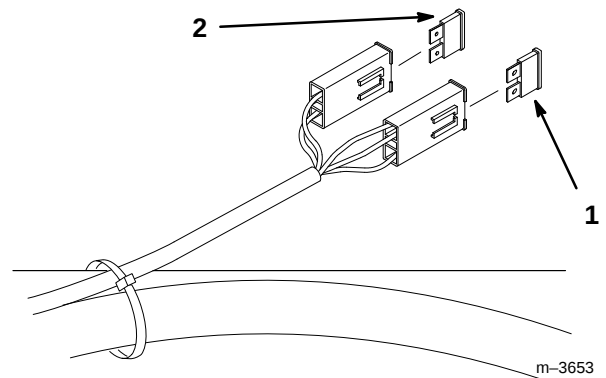

Figure 45
1. Raise the seat to gain access to fuse holder (Fig. 45).
2. To replace fuses pull out on the fuse to remove it (Fig. 45).